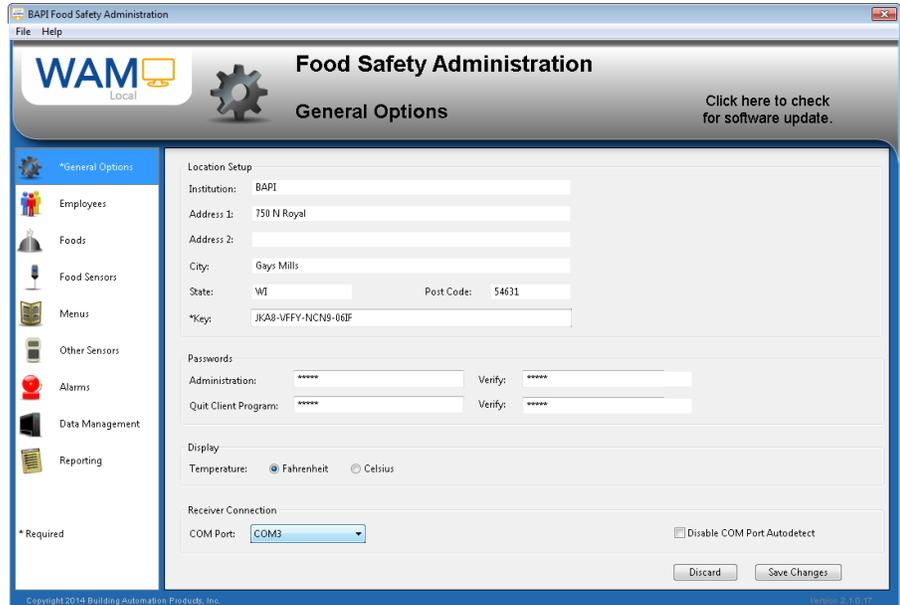

Fig 3: Administration Screen on First-time Program Startup
4. The program will open the software Administration Screen and ask for the password. The default password is "admin". Enter "admin" and hit return. The Administration Screen (Fig 3) will appear.